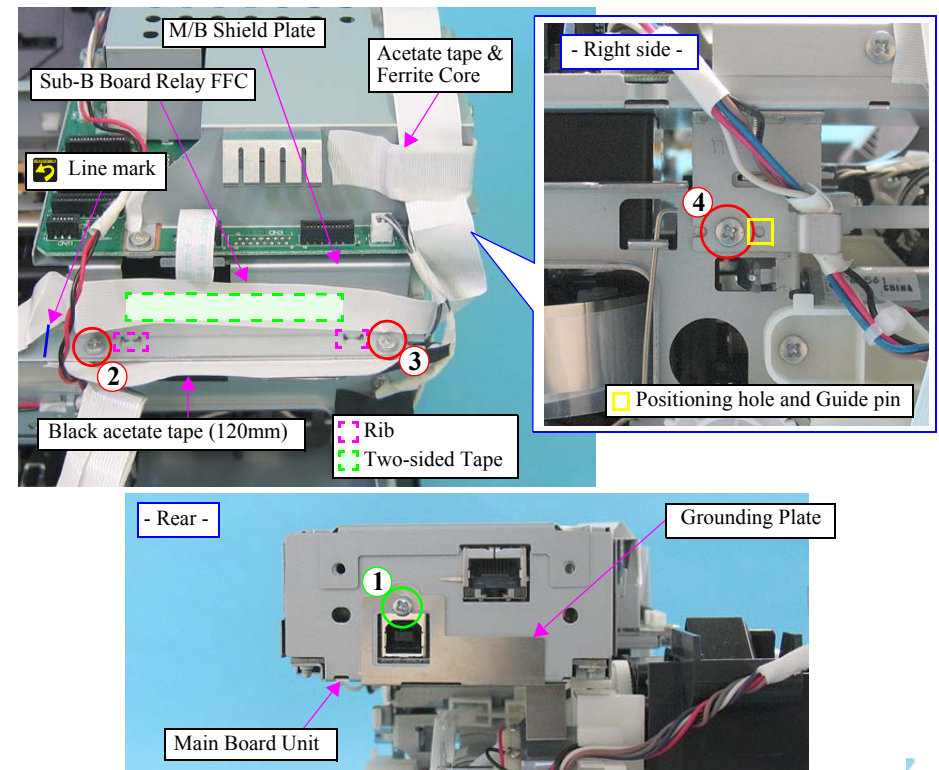
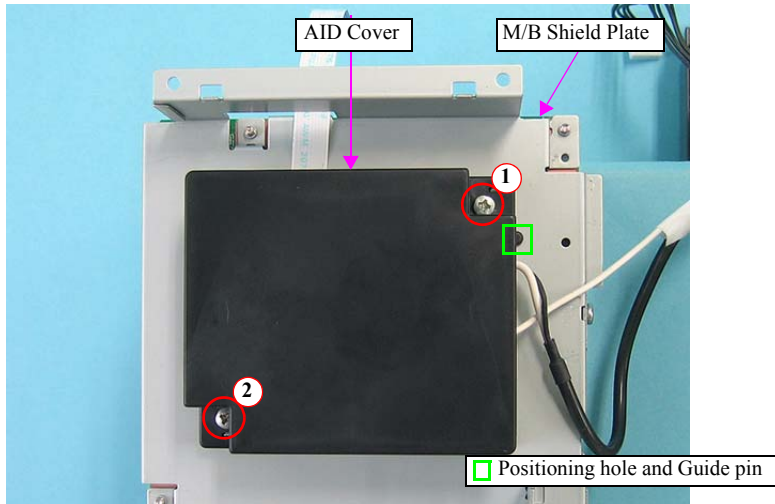

Figure 4-54. Removing the AID Board (2)
Figure 4-55. Removing the AID Board (3)
- Tighten the screws in the order indicated in Figure.4-54 and Figure.4-55.
- When attaching the Black acetate tape (120mm) shown in Figure.4-54, align the left end with the marking, and cover the heads and shafts of (2)/(3) screws.